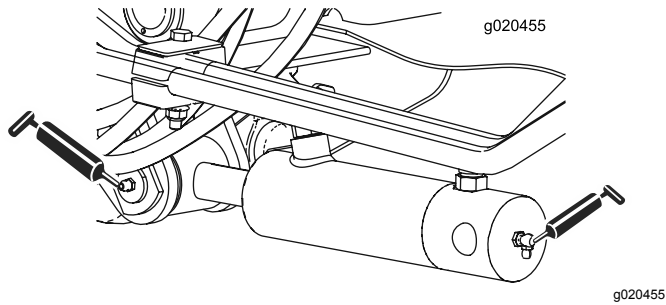

Figure 64
- Lift arm cylinder bushings (2 each) (Figure 64)